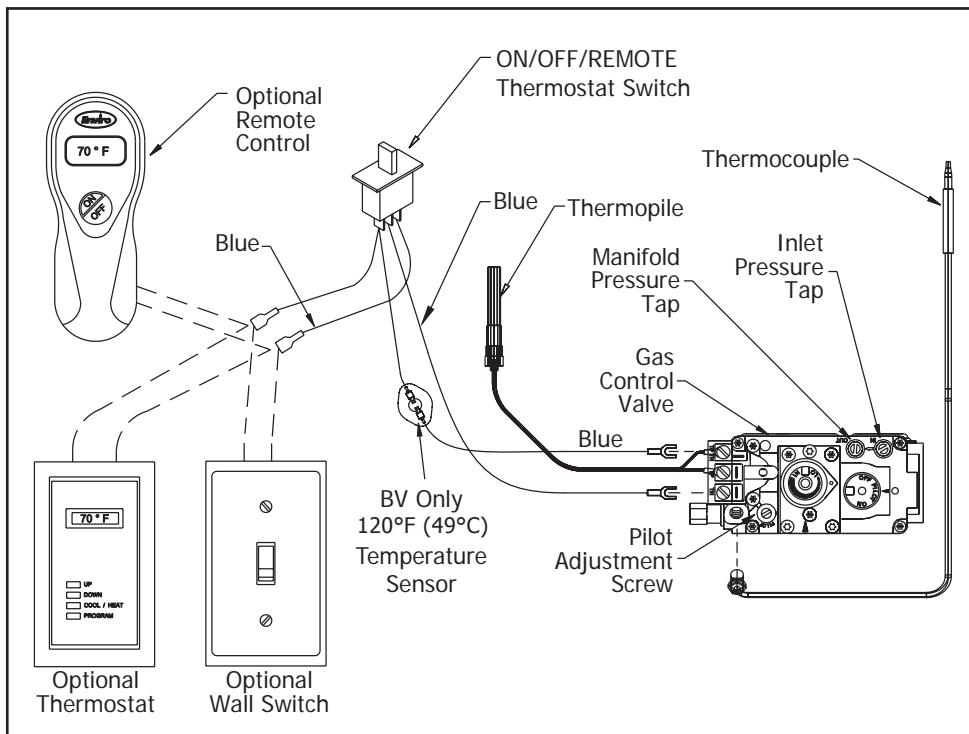

Figure 32: Accessory Wiring
The Q3 comes from the manufacture with an on/off switch mounted to the control panel. If you would like to install a wall mounted switch or thermostat then use the diagram to assist you in wiring the accessory into the unit. Disconnect the connection behind the switch in the control panel as tap into the (2) terminals as shown in Figure 32.